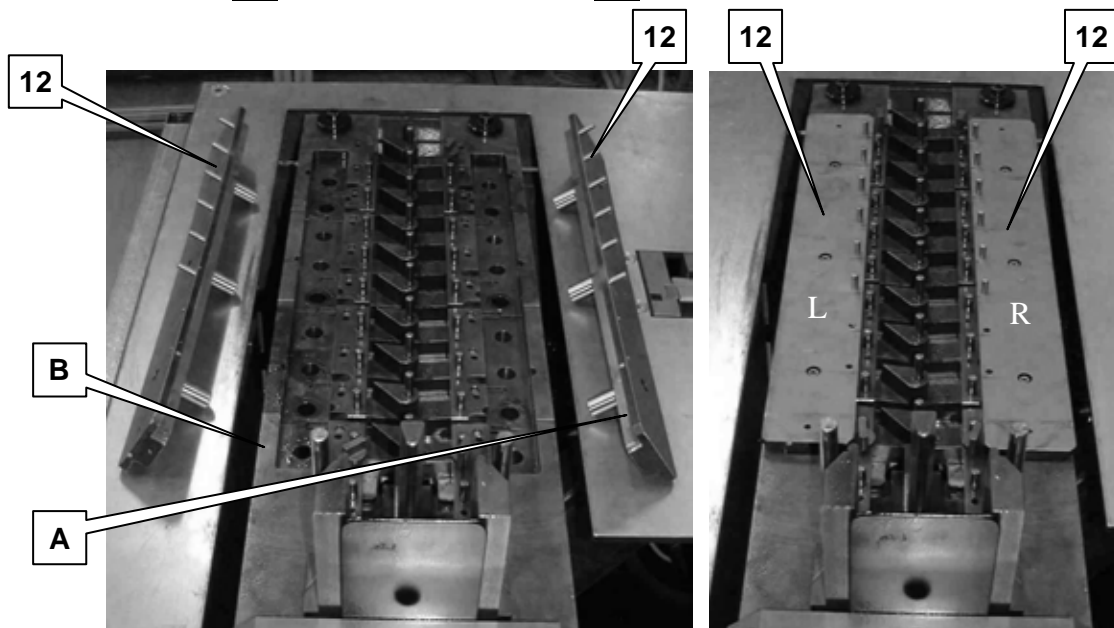

Fig. 4.59 – Insertion of fulcra R-L
8.2 take off from the machine rear side fulcra **R-L** **12**, insert **R** in the right seat and **L** in the left seat, making sure that they are well positioned and pushed down by some well delivered blows with the scredriver handle. Fulcra must be completely inserted (surface **A** has to lean over surface **B**) (fig. 4.59);